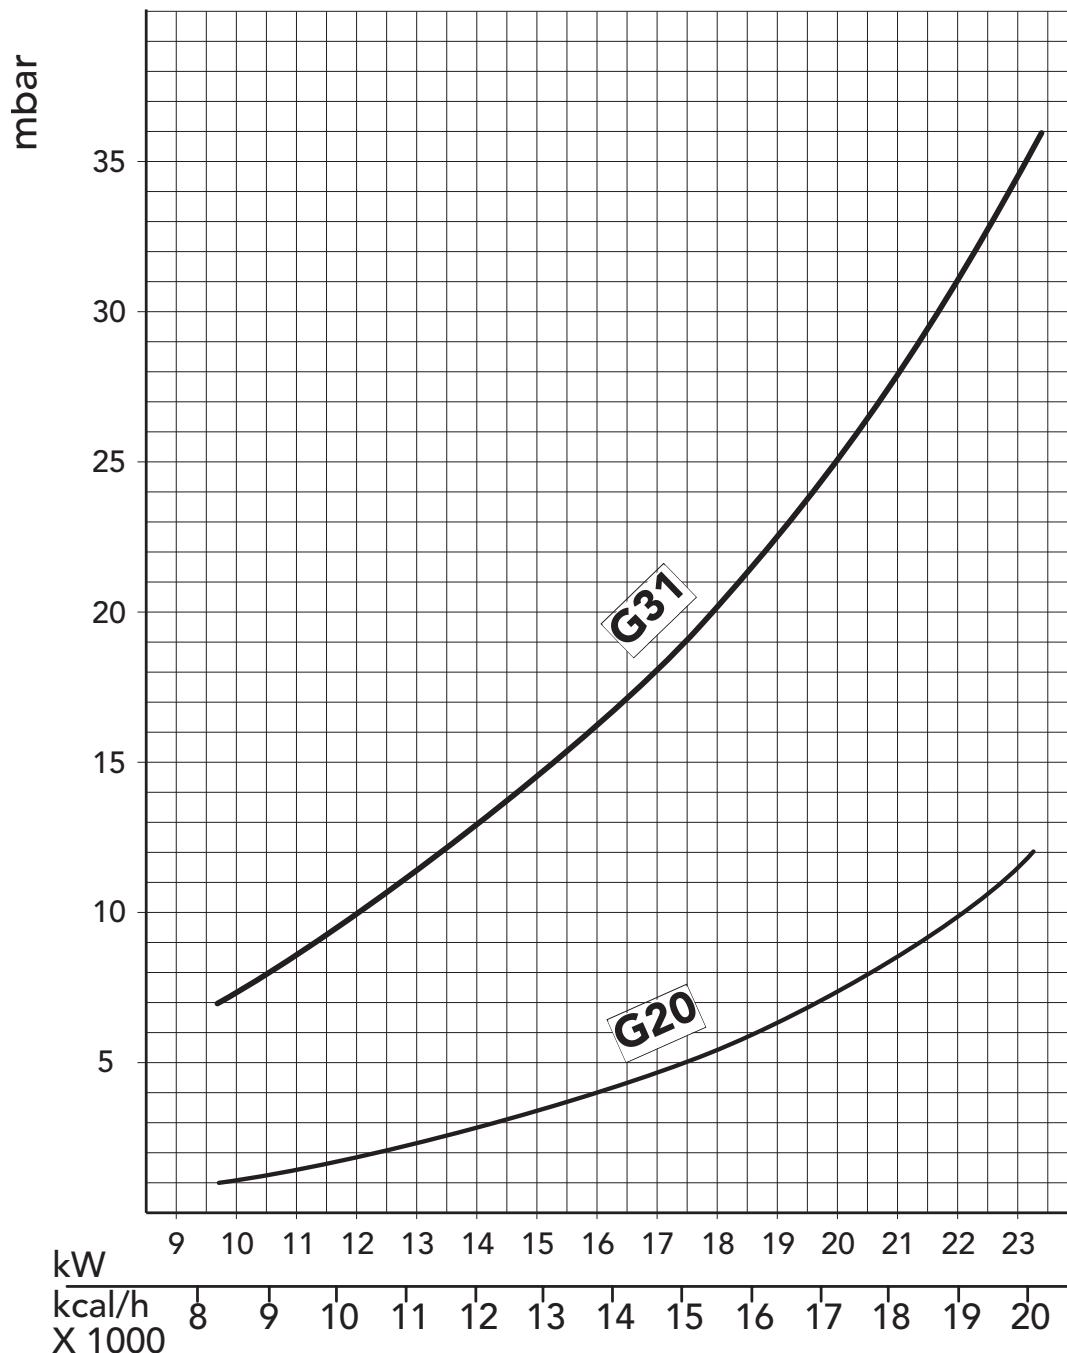

Fig. 4
N.B. - The gas pressures at the burner and gas flows during the central heating phase given in the table refer to nominal boiler output. To reduce this output (where necessary), gas pressure must be reduced until the required output level is reached (see figures 4 and 5).
To adjust boiler heat input (thus also regulating heat output to the central heating water) simply adjust the main burner via the electronic control board (fig. 4 and see paragraph 5.04).